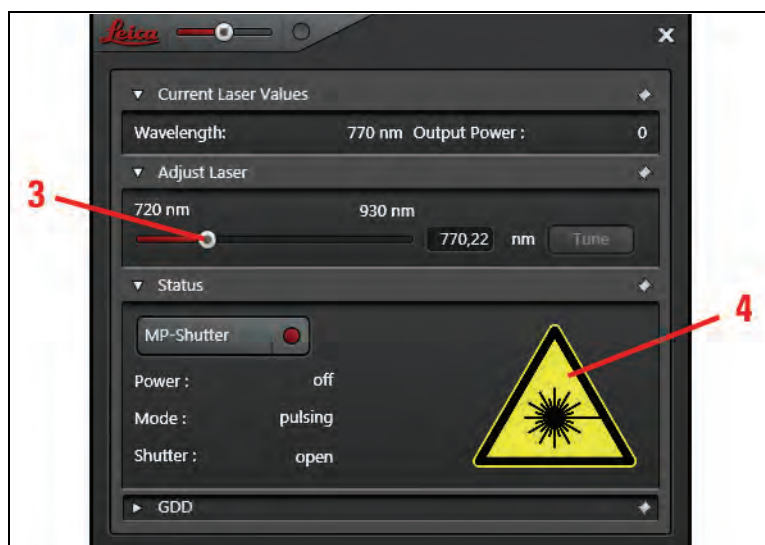

Figure 102: MP Laser Configuration, second shutter open
Use this dialog to open and close the shutter and set the laser wavelength (Figure 102, item 3). **Mode** shows the current status of the laser (Figure 101, item 2).
2. Before using the MP laser, you must open a second shutter on the laser housing (Figure 100) in the **MP Laser Configuration** dialog (Figure 101, item 1). Click on the **MP Shutter** button and hold the mouse button at least two seconds. The selection indicator for the button will turn red (Figure 102).
The red button signals that the shutter is open and laser radiation can escape. In addition, a laser warning symbol is displayed (Figure 102, item 4).
3. You can now set the wavelength of the MP laser. Use either the slider (**Figure 102, item 3**) or enter the desired wavelength directly.